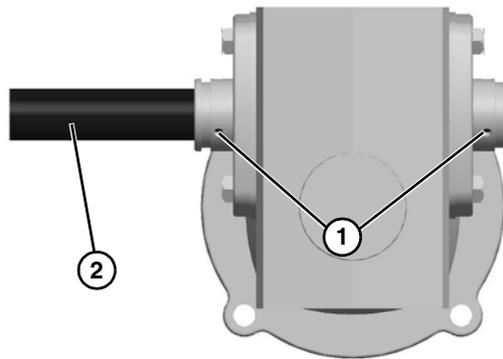

Figure 25
7. Use a hex key wrench to remove set screws on both bearings (**Figure 25, item 1**).
8. Remove gear reducer output shaft (**Figure 25, item 2**) and key.
9. Insert the new shaft with key (**Figure 25, item 2**) into new gear reducer.